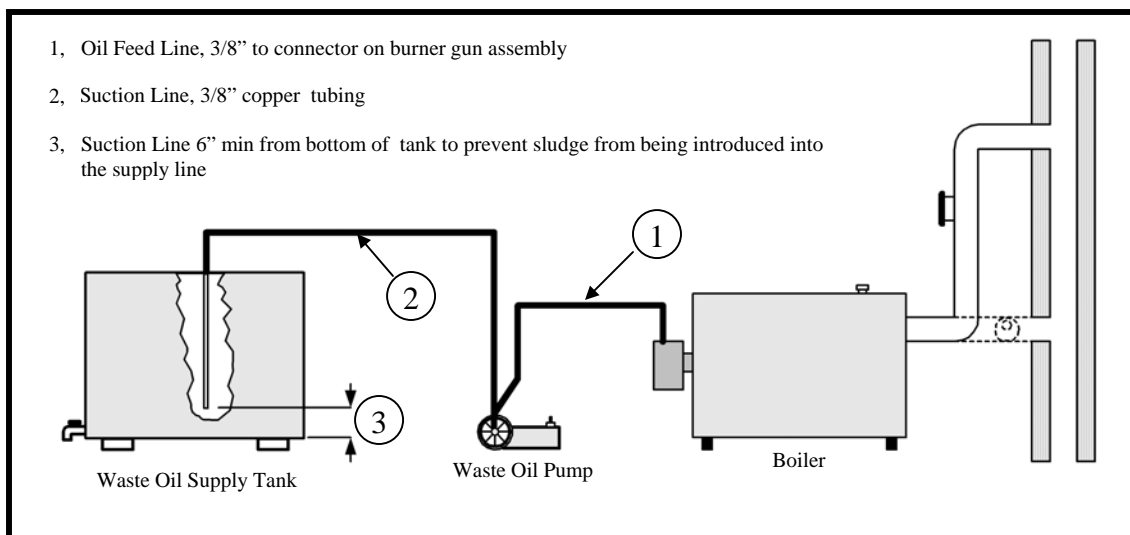

Figure 11.
5. Waste Oil Piping: USE ONLY 3/8" nominal ID copper tubing with flare fittings only on the oil suction from the tank to the oil pump and oil pump to burner. **DO NOT use ferrule fittings or teflon tape on any pipe fittings.** Keep suction line approximately 6" from bottom of oil tank to prevent suction of sludge (Figure 11). Use only an inside oil storage tank. **Do Not** draw from an outside tank, especially not an underground tank directly to burner. A separate transfer pump from an outside tank with proper filtration to the inside supply tank is acceptable.